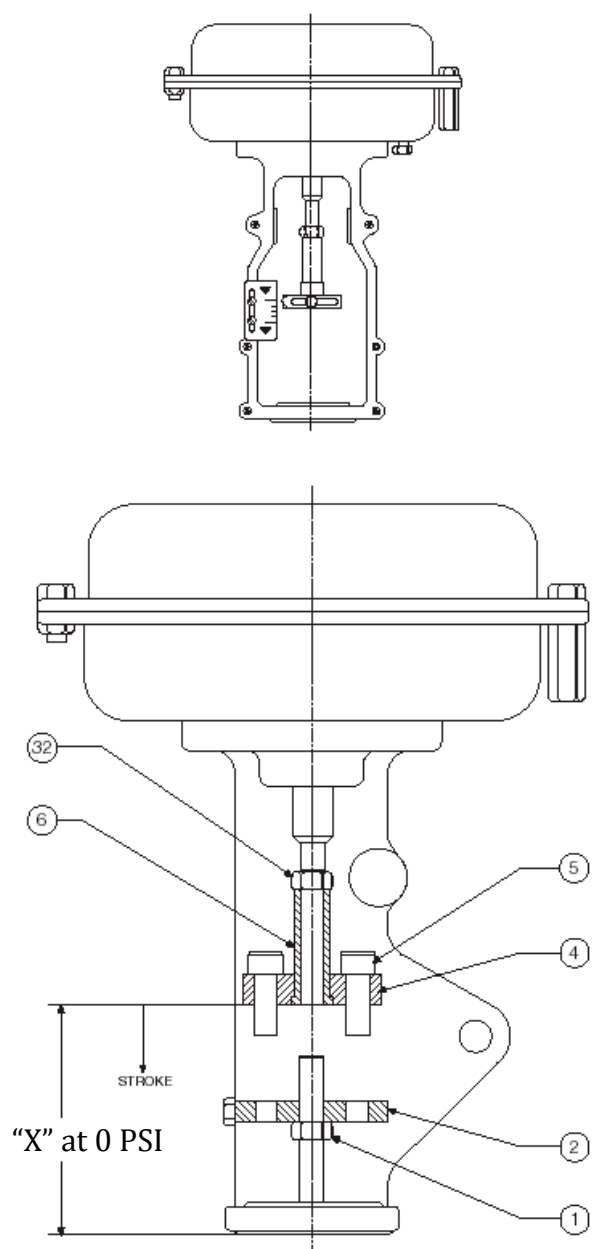

Figure 15
- F. Using the stem lock nuts (1), unscrew the plug stem until the plug touches the seat.
- G. Pneumatically or with the handwheel, stroke the actuator to raise the plug off the seat. Unscrew the plug stem one full turn and lock the stem in place with the lock nut(s) (1) against the stem connector or flange (2 or 6).
- H. Line up the travel scale (9) with the pointer and check actuator for proper operation.
- B. Position top and bottom stem connectors (2 and 4) and replace the two socket head cap screws (5). Turn the plug stem as far as possible into lower part of the stem connector (2 or 6). Refer to Figure 15 and Figure 16 for stem connector positioning.
Note: Size 3 and Size 6 actuator – Screw the plug stem into the actuator stem (10) thru the stem flange (2). Depending on stem length, it may be required to progressively lower the actuator forwards the body while screwing the plug stem into the actuator stem. Refer to Figure 15 for size 6 stem connector positioning.
- D. Using the stem lock nuts (1) unscrew the plug stem until the plug touches the seat.